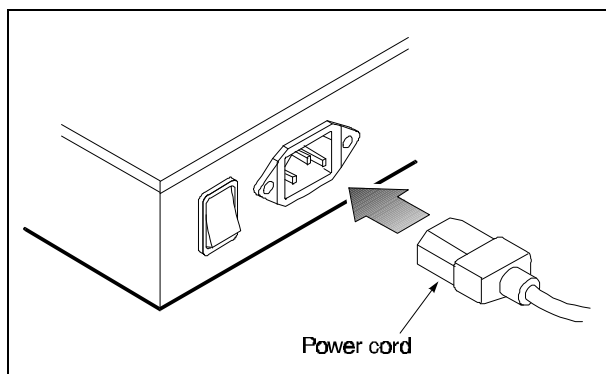

Figure 2-4 Connecting the Power Cord to the Switch
1. Connect the power cord to the switch and to a grounded three-prong wall outlet (Figure 2-4).